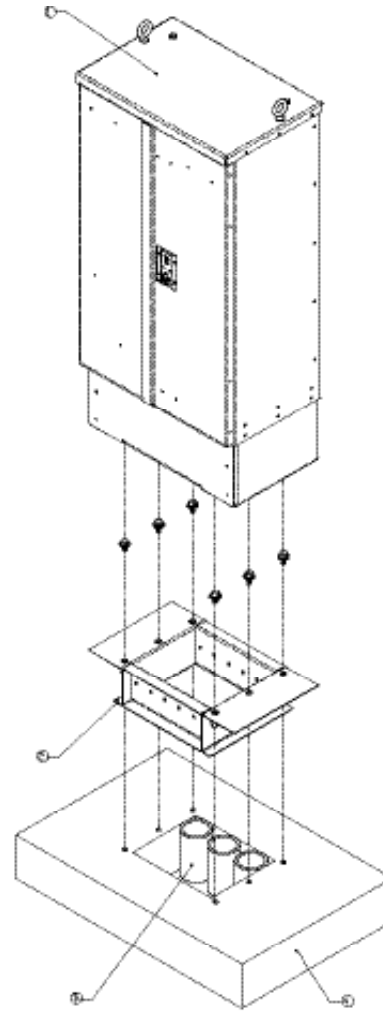

Fig. 5
5. Secure cabinet into place with the mounting bolts and washers that are included in the pad template kit. Apply 80 - 90 ft./lbs. of torque to secure the bolts. (Fig. 5)